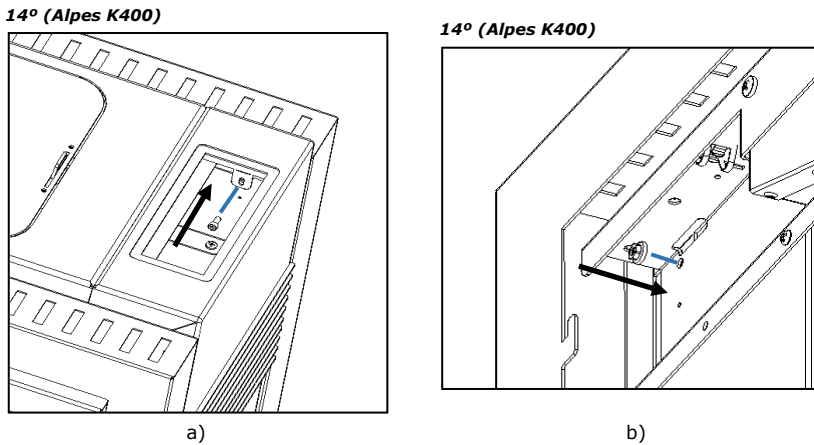

Figure 67 A and B - Fixing of the structural sides
q) After attaching the sides, tighten these to the equipment frame. In the case of the Alpes K400 using two screws A (DIN 912 M5x12) and two nuts B (DIN 6923 M5), in the prepared holes see Figure 67-a and b.